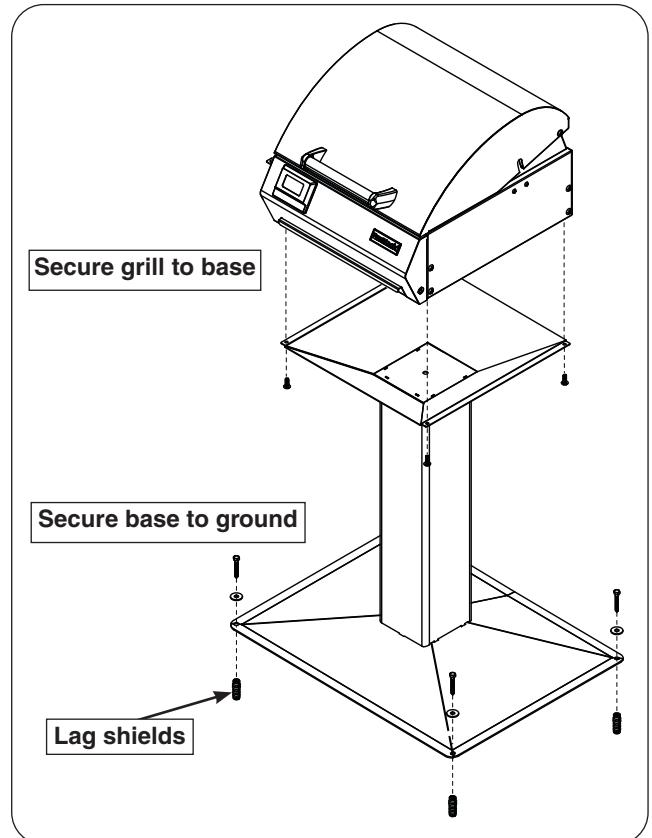

Fig. 12-3 Post model installation
3. Align the electric grill onto the top of the post assembly. Using the same four screws, fasten the electric grill to the post assembly. See Fig. 12-3.